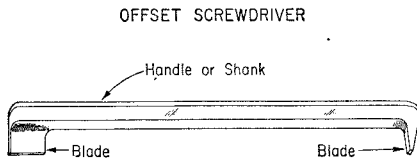

Fig. 9
5.01 The offset screwdriver, illustrated in Fig. 9, has either one or two blades which project at a right angle to the handle or shank. The angles, however, that are listed in the Bell System Practices for the various types of offset
screwdrivers are determined by the angle formed by the face of the blade and the handle (Fig. 9 illustrates a 90° offset screwdriver).